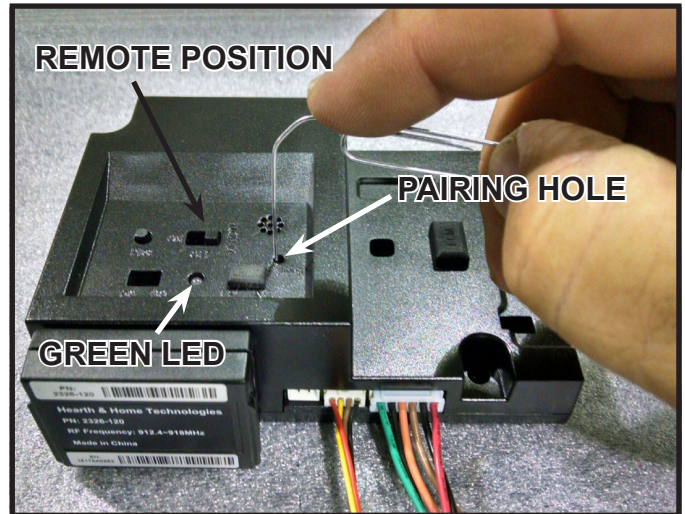

Figure 12. Pairing IFT-ECM
2. Locate the pairing hole on the IFT-ECM. See Figure 12. Using a paper clip or similar item, press and release the pairing button. The IFT-ECM will “beep” once and the green LED will blink for 14 seconds. During the 14 seconds, it is normal for installed accessories such as lights, fan, and SMART-WALL-B to energize momentarily.